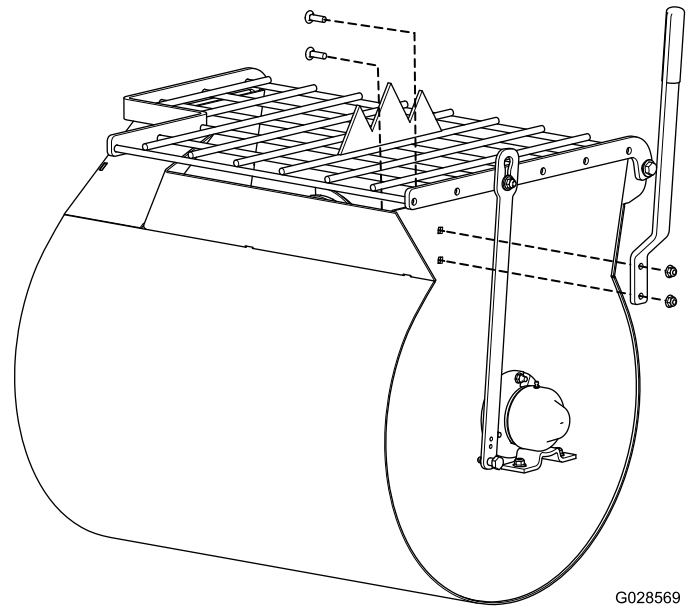

Figure 3
2. Position the dump handle so that the bolt holes align with the bolt holes in the drum (Figure 3).
3. Insert one of the carriage bolts into the square bolt hole and slide the corresponding hole of the drum handle over it. (Figure 3).